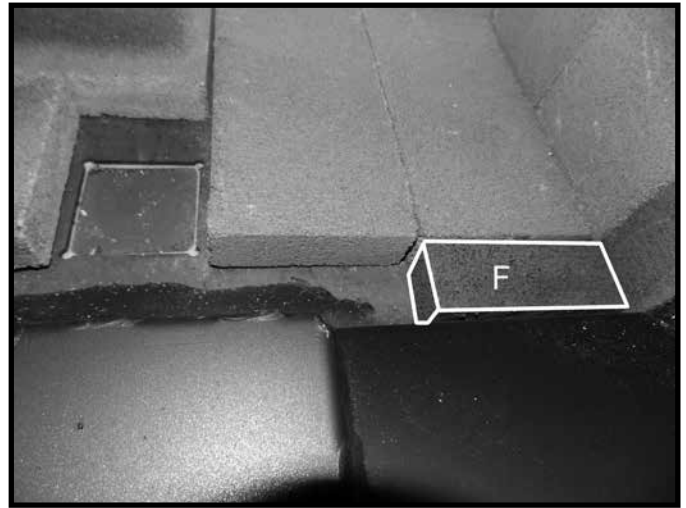
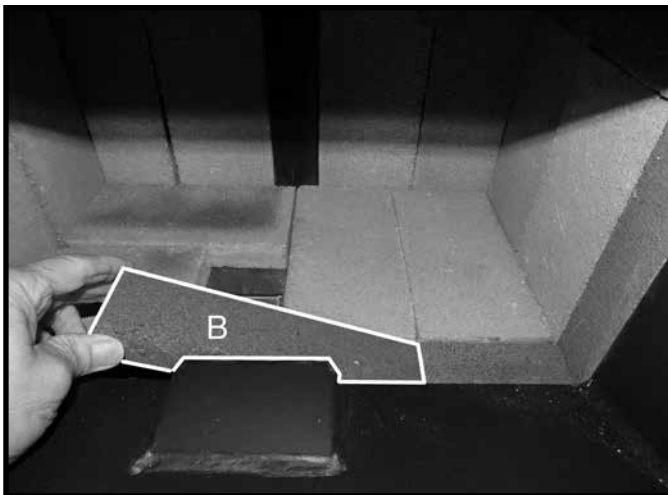
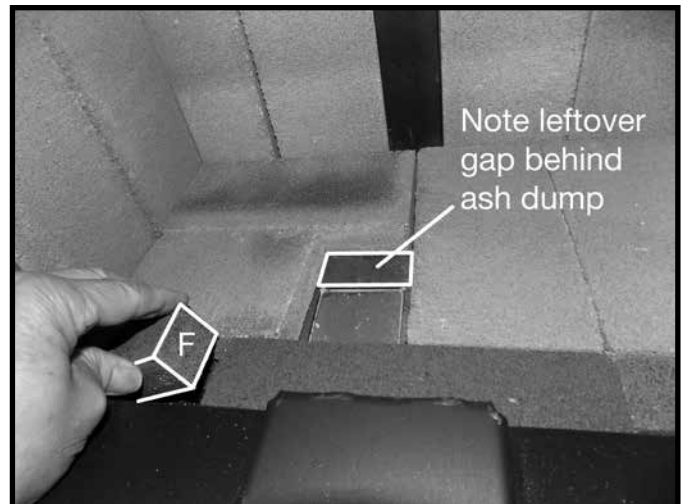

Figure 26: Short, narrow brick installed in front row.
Figure 27: Long narrow center brick in front row.
Figure 28: Final short narrow brick in front row.
7. Place a short narrow "F" brick against the front right side of the floor (Figure 26) followed by a longer "B" brick in the center of the front row (Figure 27). Finish with the last "F" brick placed against the left side front row (Figure 28). Note: There will be a leftover gap behind the ash dump.